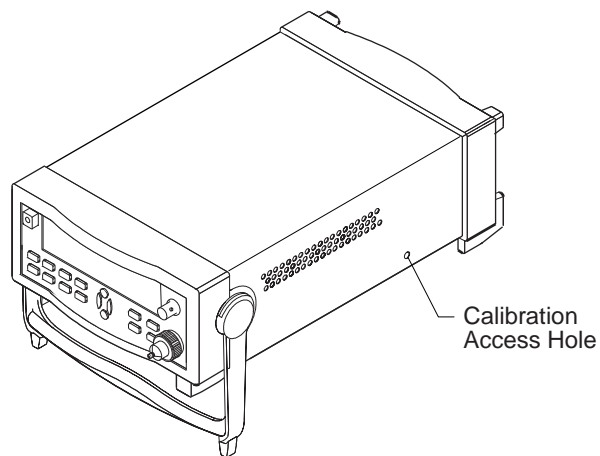

Figure 2-1. Calibrating the Counter
- 2** If there is a label covering the calibration adjustment access hole, remove it (see Figure 2-1).